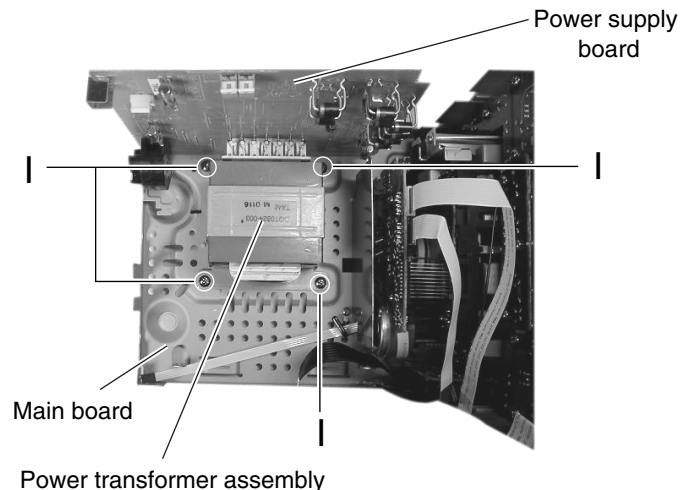

Fig. 19
**Removing the AC supply board and the power transformer (See Fig. 19)**